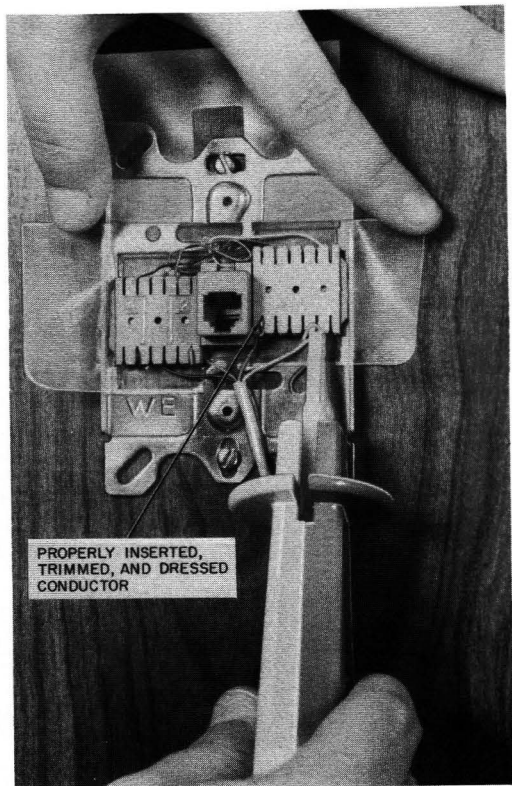

Fig. 12—Terminating Wire With Lead Insertion Tool in 630A4 Connecting Block
Note: The 630A4 connecting blocks manufactured after March 1977 are received from the factory with a plastic protective wrapper folded around the quick-connect terminals. To connect station wire, fold out the front and side flaps, make connections and dress leads (Fig. 12), then refold wrapper across terminals. This wrapper protects the terminals from foreign matter and
- (3) Use the lead insertion tool to seat conductors in bottom of slots (Fig. 12). Do not twist or rock insertion tool and allow sufficient slack. Do not insert more than one conductor in each slot. Trim the terminated leads approximately 1/4 of an inch from the connecting surface and bend downward in such a manner that the conductor tips do not make contact with the mounting plate.